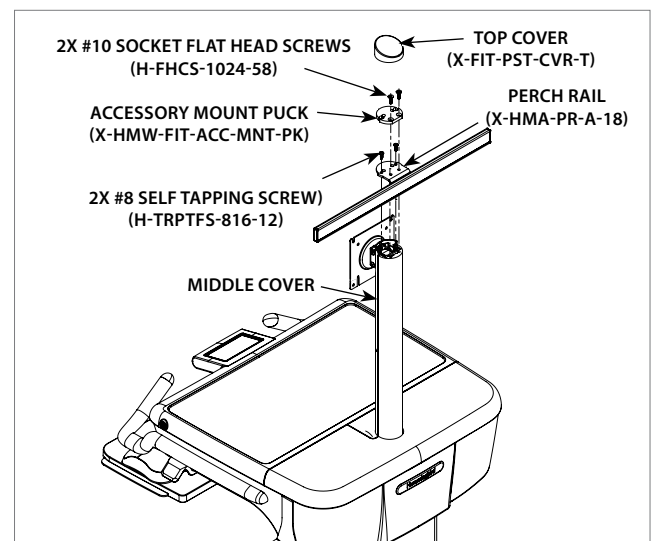

Figure 3
3. Place the **PERCH RAIL (HMA-PR-A-18)** on top of the **HUMMINGBIRD FIT POST** and secure with 2x **#8 SELF-TAPPING SCREWS (H-TRPTFS-816-12)**. Now place the **ACCESSORY MOUNT PUCK (X-HMW-FIT-ACC-MNT-PK)** on top of **PERCH RAIL (HMA-PR-A-18)** and secure with 2x **#10 SOCKET FLAT HEAD SCREWS (FHCS-1024-58)**. Put back the **TOP COVER (X-FIT-PST-CVR-T)** on the **POST (Figure 3)**.